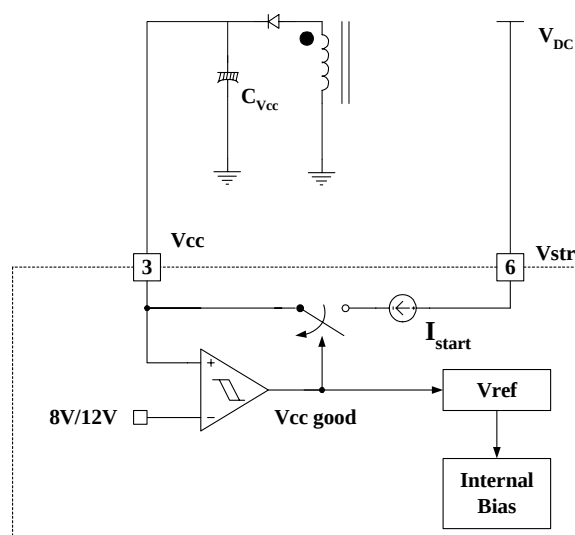

Figure 4. Internal startup circuit
**1. Startup :** In previous generations of Fairchild Power Switches (FPSTM) the Vcc pin had an external start-up resistor to the DC input voltage line. In this generation the startup resistor is replaced by an internal high voltage current source. At startup, an internal high voltage current source supplies the internal bias and charges the external capacitor (CVCC) that is connected to the Vcc pin as illustrated in figure 4. When Vcc reaches 12V, the FPSTM begins switching and the internal high voltage current source is disabled. Then, the FPSTM continues its normal switching operation and the power is supplied from the auxiliary transformer winding unless Vcc goes below the stop voltage of 8V.